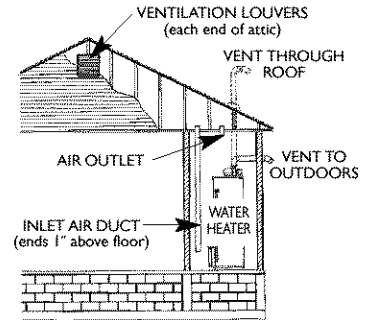

Figure 8
2. When communicating with the outdoors through vertical ducts, each opening shall have a minimum free area of 1 square inch per 4,000 BTU per hour of total input rating of all equipment in the enclosure. (See Figure 8.)